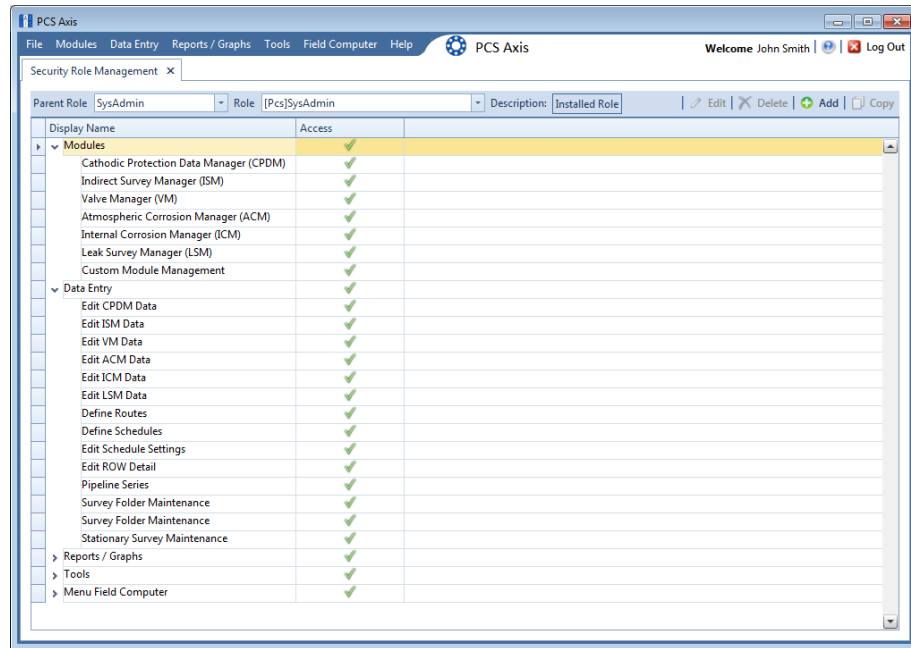

Figure 3-16. Security Role Management
- 1 Click **Tools** > **Security Role Management** to open the *Security Role Management* window (Figure 3-16).
- 1 If the *Security Role Management* window is not open, click **Tools > Security Role Management** (Figure 3-16, page 56).